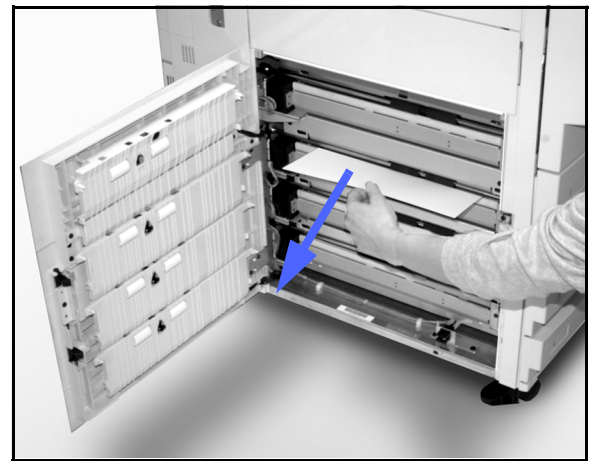

Figure 4: Clearing a jam from the left side
- If a paper jam occurs from Paper Trays 1, 2, 3, or 4, open the side panel in the Left Door and carefully remove the jammed paper, as illustrated in Figure 4.